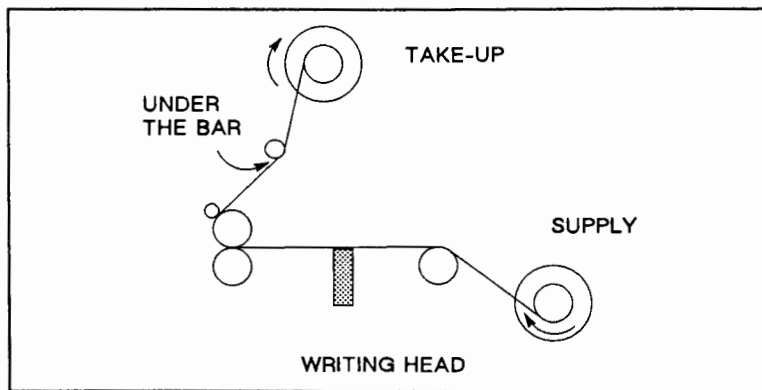

Figure 2-26. Take-Up Reel Loading
- b. Route the media under the bar and over the spindle as indicated in Figure 2-26.